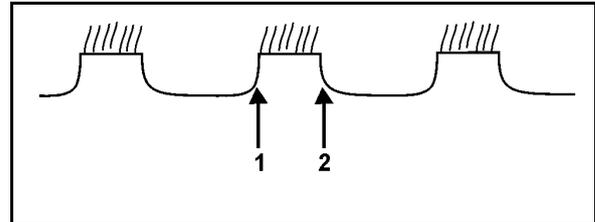

Fig. 23
- Fig. 23: Adjust 1st disc row to right and check again.